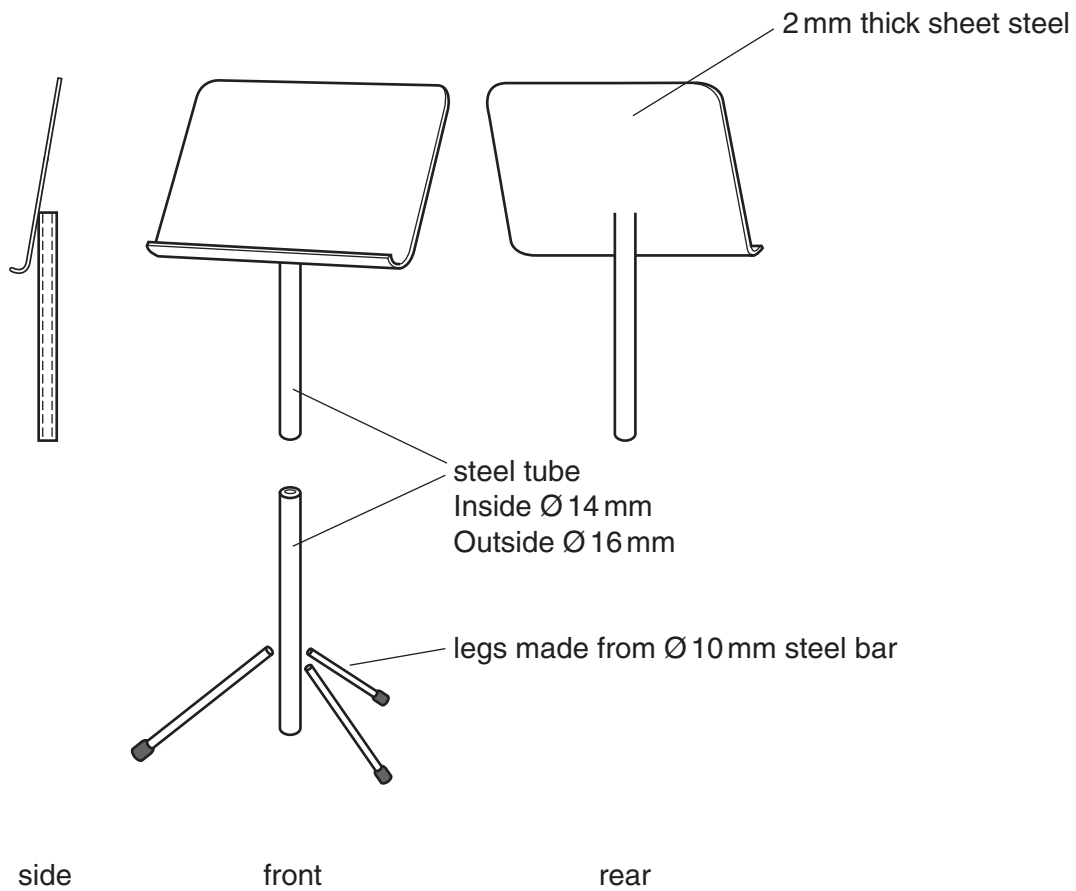

Fig. 6
- 5 Fig. 6 shows an incomplete design for a music stand. The music stand is made of mild steel. There is **no** welding or brazing equipment available for its manufacture.